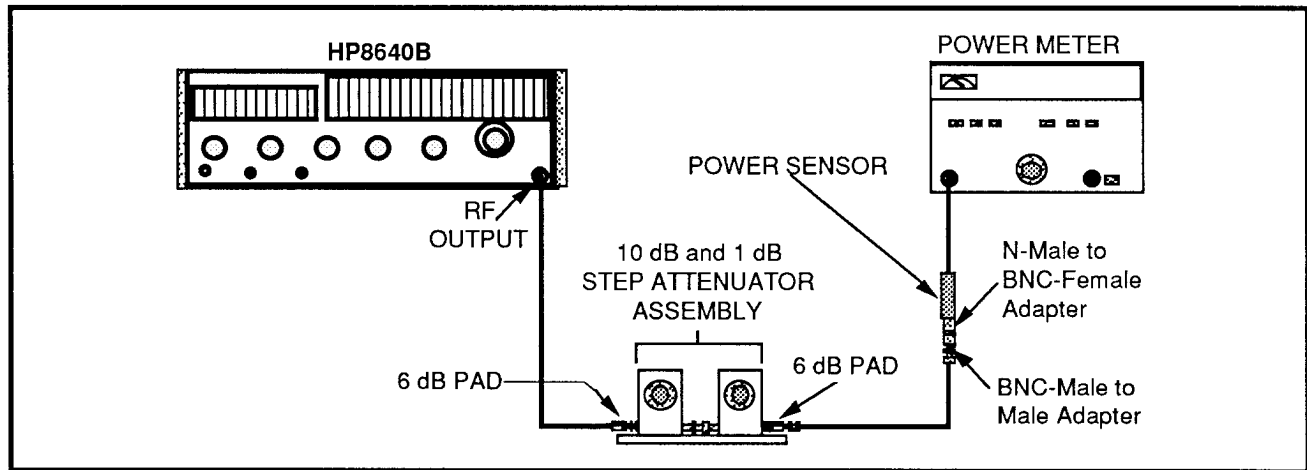

Figure 4-10. Gain Step Reference test setup.
- (1) Connect the test equipment as shown in Figure 4-10.
- (2) Set the step attenuators to 0 dB, and set the generator for a 100 MHz output and a power meter reading of -0 dBm.
- (3) Set the step attenuators to 10 dB (add 10 dB of attenuation to the 100 MHz signal) and make a note of the power meter reading. This is the actual attenuation of the 10 dB step.
- (4) Reset the step attenuator to 0 dB. Disconnect the cable from the power meter sensor and connect it to the RF INPUT.
- (5) Perform frequency normalizations (if not previously done) by pressing UTIL 3 1.
- (6) Start the first gain step measurement by pressing UTIL 5 5 1 0 1 W. The instrument will make a measurement and return to GAIN STEP REF menu.
- (7) Start the second measurement by pressing 2 and 1, and entering the actual value of the 10 dB step attenuator determined in part (3).
- (8) Finish the gain step normalization by adding 10 dB of attenuation in the signal path and pressing 2 and W.
- (9) Press BKSP to return to the REFERENCE NORMALIZATIONS menu.